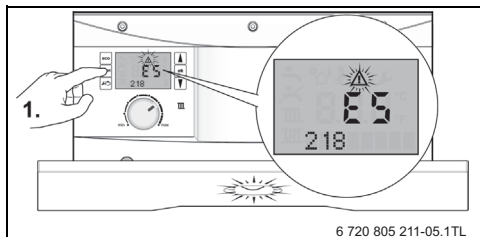

Fig. 7
1. A fault condition is indicated by a flashing blue operation/fault light and a triangular alert symbol on the display. A flashing **fault code** is also displayed, see figure 7.
- ▶ Make a note of these fault codes, in the table below as an example see figure 7, fault codes E5 and 218.